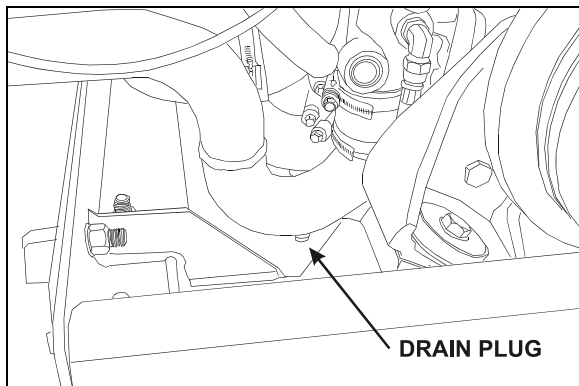

FIGURE 11: WATER PUMP DRAIN PLUG 05072
3. Unscrew the water pump housing inlet line drain plug (Fig. 11).